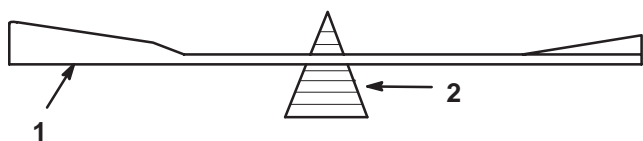

Figure 33
2. Check the balance of the blade by putting it on a blade balancer (Fig. 33). If the blade stays in a horizontal position, the blade is balanced and can be used. If the blade is not balanced, file some metal off of the back side of the blade. Repeat this procedure until the blade is balanced.